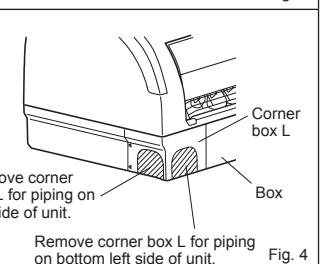

Fig. 4
- 10) According to the piping direction, remove the shaded part of the corner box L (Fig. 4) or corner box R (Fig. 5). Reinstall electrical cover, corner box R and panel assembly.
- Insert the drain hose fully into the drain pan at the back right of the indoor unit. (Fig. 4)
- Insert the drain hose into wall hole sleeve (C), and attach the upper part of indoor unit onto the installation plate (1). Then, shift the indoor unit completely to the left to make placing the piping in the back of the unit easier.
- 4) Flaring work (Fig. 4, 5). Firmly hold copper pipe in the dimension shown in the table. Select A inch (mm) from the table according to the tool you use.